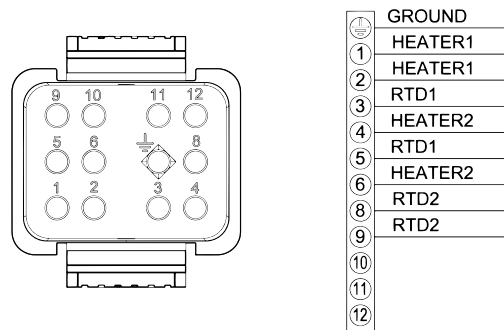

Figure 13 Pin positions on the applicator cordset
3. See Figure 13. Use an ohm meter to check the heater resistance and continuity at the heater pins on the cordset:
3. See Figure 13. With the RTD at a known temperature, use an ohmmeter to measure the RTD resistance at the RTD pins on the cordset.